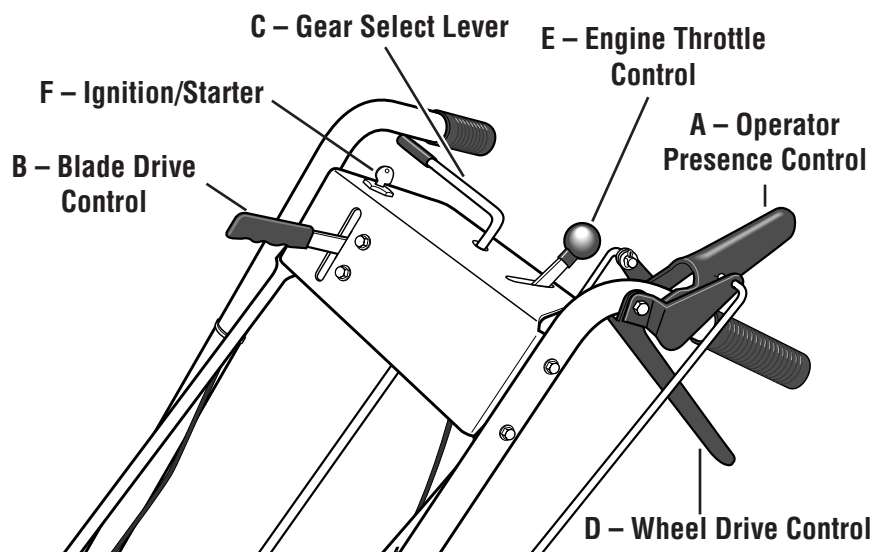

Figure 4-2: Mower Controls
The mower can be manually pushed or pulled by putting the Gear Select Lever (C, Figure 4-2) in N (neutral) and pressing and holding the Operator Presence Control (A, Figure 4-2) down against the handlebar grip.
3. Move Engine Throttle Control (E, Figure 4-2) fully upward to choke setting to start a cold engine or to fast (rabbit) setting to start a warm engine.
- B.** Turn ignition key (F, Figure 4-2) fully clockwise to crank engine. To avoid damage to starter motor, do not crank engine for longer than five seconds at a time. Also, allow 15 seconds between each start attempt. If engine fails to start after three attempts, repeat instructions starting with Step 2 (try setting throttle at fast setting).
2. Press and hold Operator Presence Control (A, Figure 4-2) against handlebar grip.
3. Slowly push Blade Drive Control (B, Figure 4-2) fully forward until it stays in the engaged position. The blades are now rotating.
- A.** Press and hold Operator Presence Control (A, Figure 4-2) against handlebar grip.
- B.** Put the Gear Select Lever (C, Figure 4-2) into one of the numbered settings (1 - Slow, 2 and 3 - Medium, 4 -
C. To start the wheels, slowly squeeze the Wheel Drive Control (D, Figure 4-2). The harder you squeeze, the faster the wheels will turn. To avoid sudden acceleration, slowly squeeze the lever.
A. Stop the mower blades and wheels by releasing the Operator Presence Control (A, Figure 4-2).
- C. Put the Gear Select Lever (C, Figure 4-2) in R (reverse) setting by first moving lever to N (neutral). Then pull lever up, turn it to R position, and release lever.
- D. To start the wheels, slowly squeeze Wheel Drive Control (D, Figure 4-2). To avoid sudden acceleration, slowly squeeze the lever.